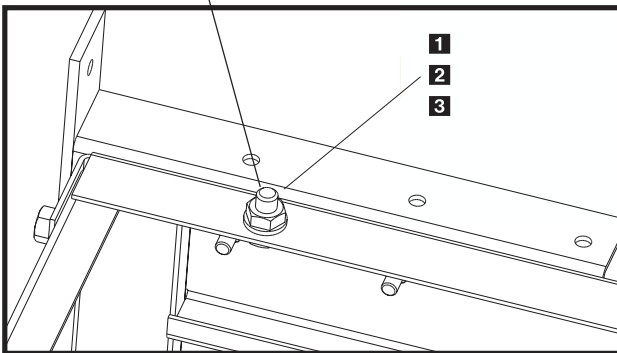

Figure 2: Frame Mounting Bolts
Step 4: Install **optional** stop bars using supplied hole patterns (see Fig.2). To achieve the best position, you may need to drill additional holes in bracket in order to properly position spreader.
Step 5: Now that the spreader is located front to back, you will now center it left to right. Looking at the inside front and rear corner area of the lower frame area, you will notice (4) holes in the bottom of the frame. Using a paint pen or similar marking device, mark hole locations.
Step 7: Install and tighten all (4) bolts.